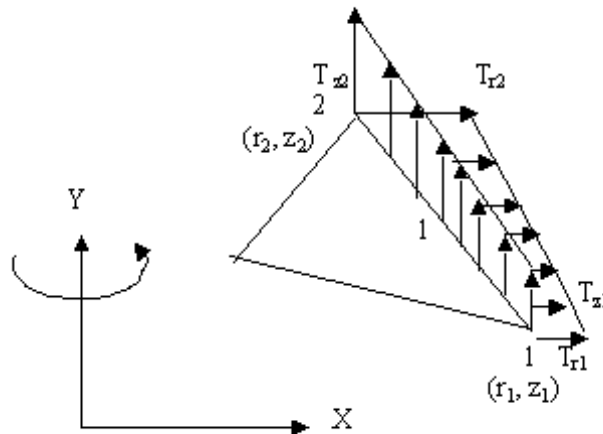

Figure 3
3. For the linearly varying distributed load on the axisymmetric conical surface shown in figure3. Prove that the equivalent point load vector T is given by